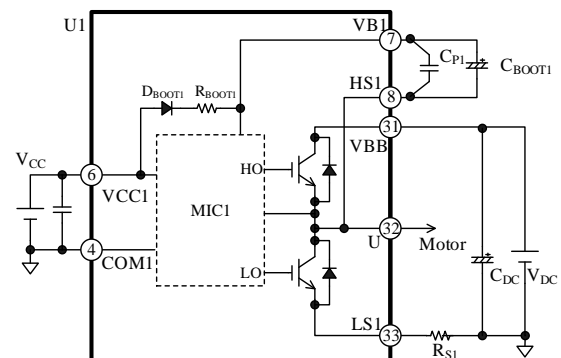

Figure 12-1. Bootstrap Circuit
As Figure 12-1 shows, a bootstrap diode,  $D_{BOOTx}$ , and a current-limiting resistor,  $R_{BOOTx}$ , are internally placed in series between the VCCx and VBx pins. Time constant for the charging time of  $C_{BOOTx}$ ,  $\tau$ , can be computed by Equation (3):